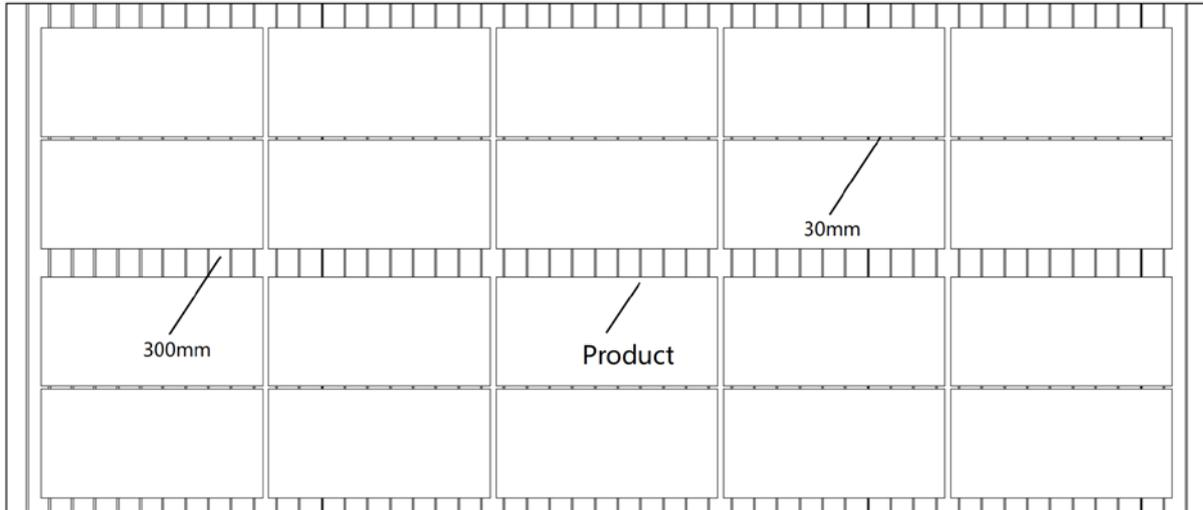

Figure 6
⑤ A distance of 30mm(± 5 mm) should be left between two adjacent products and a maintenance access path of 300mm should be provided between two rows of products. (Figure 6).